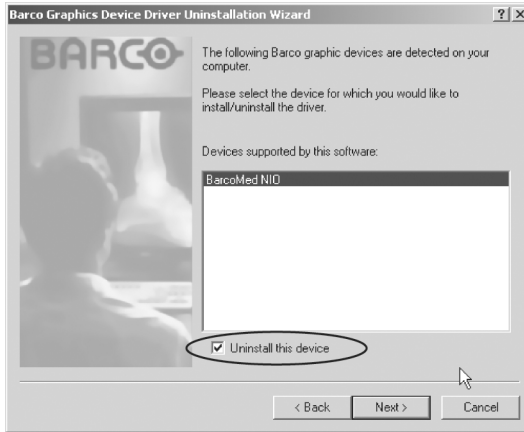

Figure 61
5. On the next screen (see figure 61 on page 125), **check** the checkbox next to "Uninstall this device" and click **"Next"** to continue.